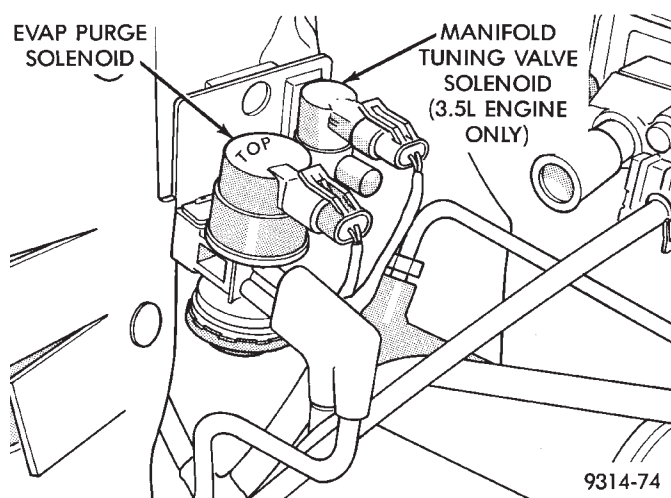
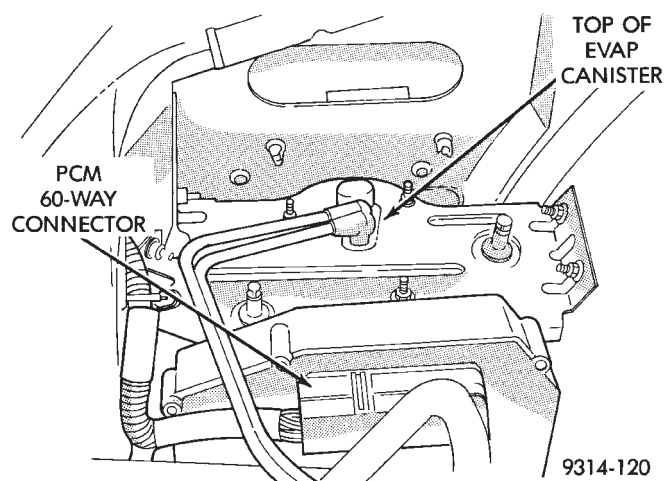

Fig. 14 EVAP Purge and MTV Solenoids
Fig. 15 EVAP Canister Hose Connections
(12) Ensure the EVAP solenoid and MTV solenoid (3.5L only) electrical connectors are attached to the solenoids (Fig. 14).
(13) Inspect the air cleaner filter element. Replace as necessary.
(14) Inspect hose connections at the EVAP canister for leaks (Fig. 15). Remove the air cleaner to access the EVAP canister.
(15) Verify the 60-way connector is fully inserted into the powertrain control module (PCM) (Fig. 15). Ensure the wires are not stretched or pulled out of the socket.